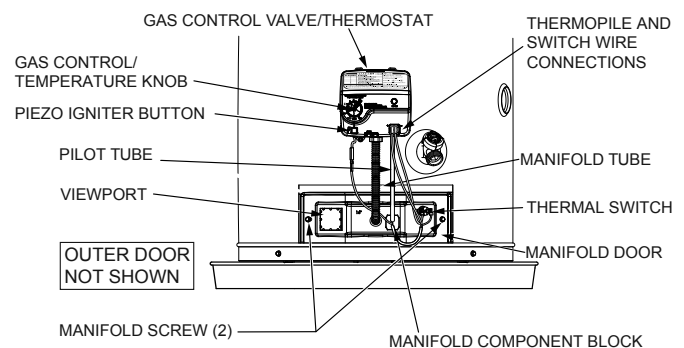

FIGURE 23.
8. Remove the screws (1/4" nut driver) securing the manifold/burner assembly to the combustion chamber. See Figure 23.
2. Inspect the viewport for damage and replace as required (Figure 23).
7. Connect the white (-) thermopile wire to the gas control valve/thermostat, then connect the red thermal switch wires to the thermal switch on the manifold door. (Figure 23).